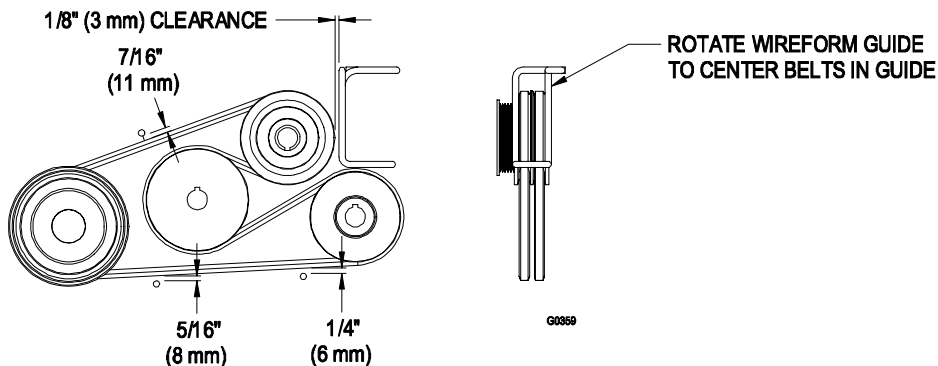

FIGURE 11
- c) Adjust belt guides as shown in Figure 11.